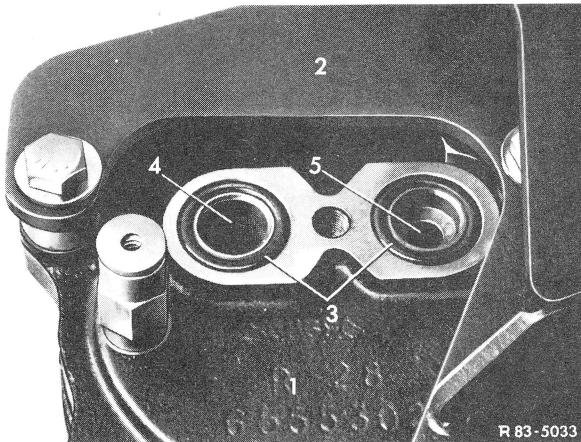

Figure 1
**1** Check installed sealing rings (3) on refrigerant compressor (1) for their condition and replace, if required, also add refrigeration oil (Fig. 1).
**2** Screw pressure test plate (3) with available hex. screw and snap ring (2) to refrigerant compressor (1).